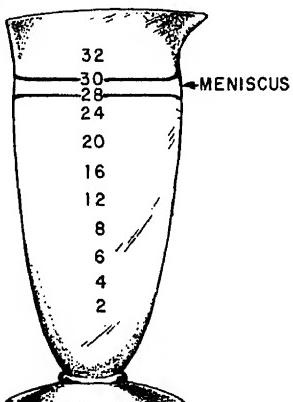

Figure 2A
- In answering question 2-17, refer to figure 2A. NOTE: For the purpose of question 2-17, the meniscus has been exaggerated in the drawing.